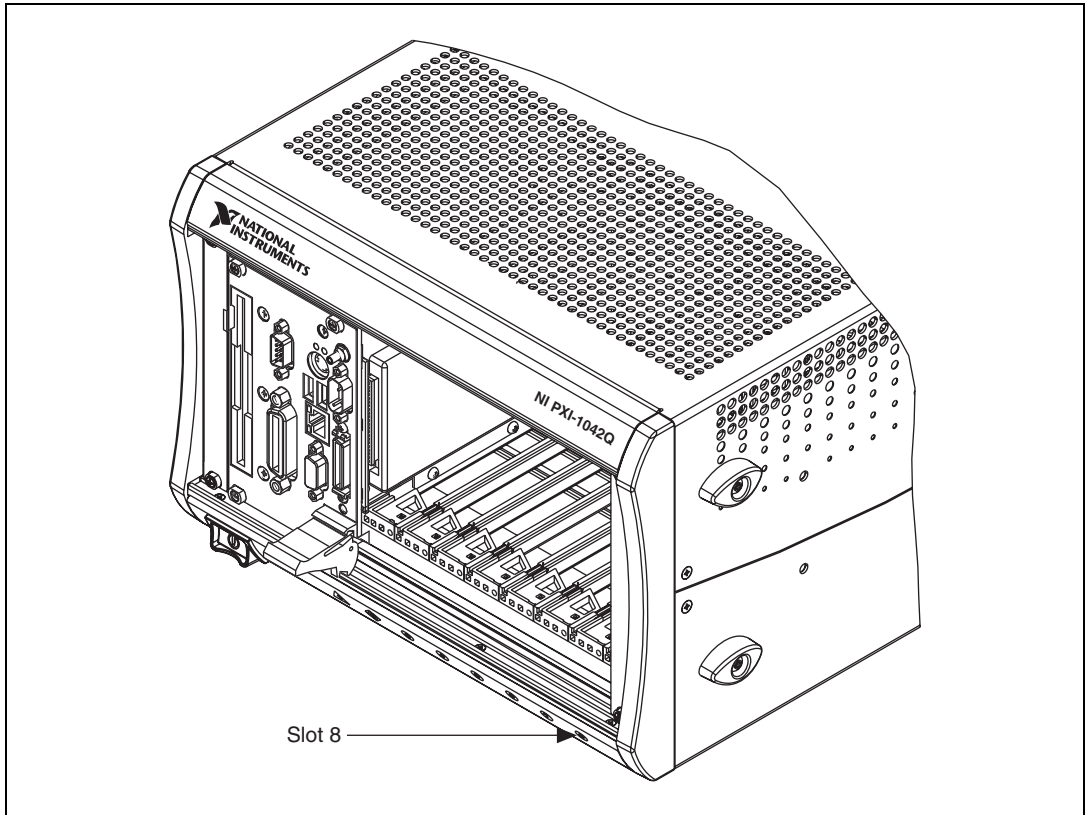
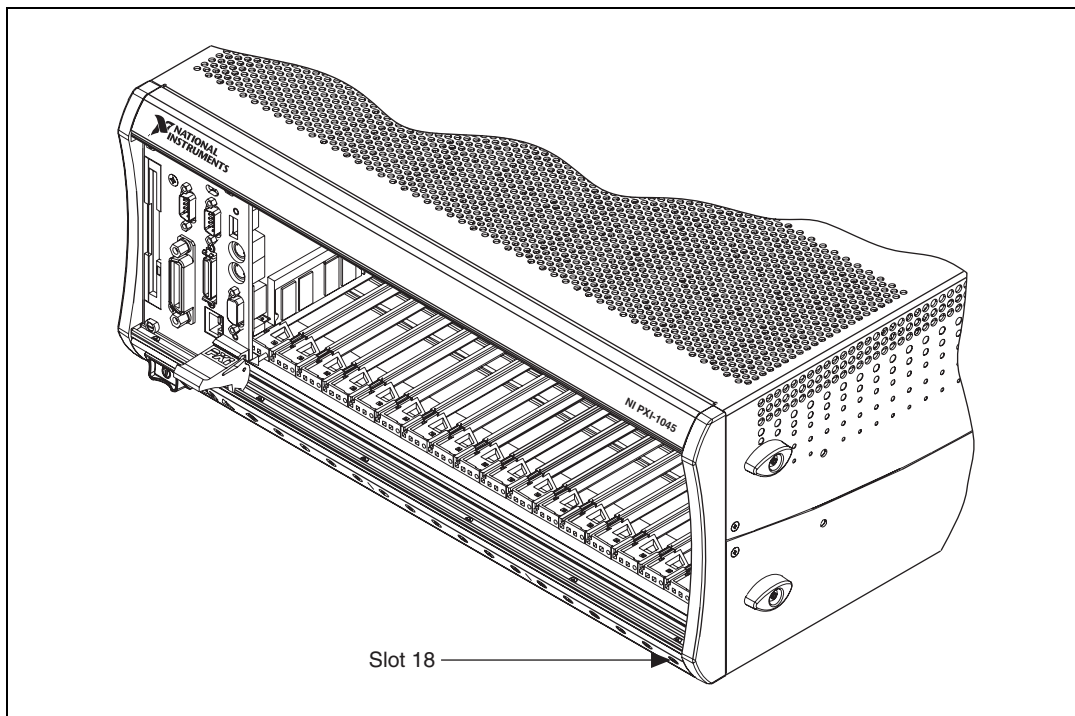

Figure 2-1. Location of NI PXI-1042Q Slot for NI PXI-8250 Support
Figure 2-2. Location of NI PXI-1045 Slot for NI PXI-8250 Support
2. Locate the rightmost (last numbered) slot of the NI PXI-1042/1042Q or NI PXI-1045 chassis and ensure it is unused. If occupied, relocate the module or remove the filler panel. Refer to Figure 2-1 for the location of this slot on the NI PXI-1042/1042Q chassis, and Figure 2-2 for the location of this slot on the NI PXI-1045 chassis.
4. Insert the NI PXI-8250 module into the rightmost slot of an NI PXI-1042/1042Q or NI PXI-1045. The correct position is slot 8 for the NI PXI-1042/1042Q and slot 18 for the NI PXI-1045, as shown in Figure 2-1 and Figure 2-2, respectively. Use the injector/ejector handle to fully inject the device into place.